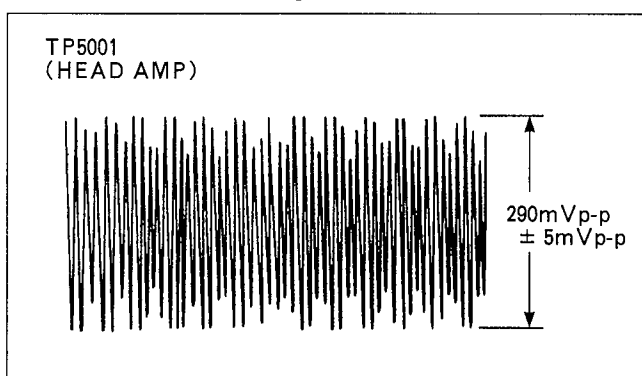

Figure E56
4. Adjust VR41003 so that the level becomes 290mVp-p \pm 5mVp-p as shown in Figure E56.